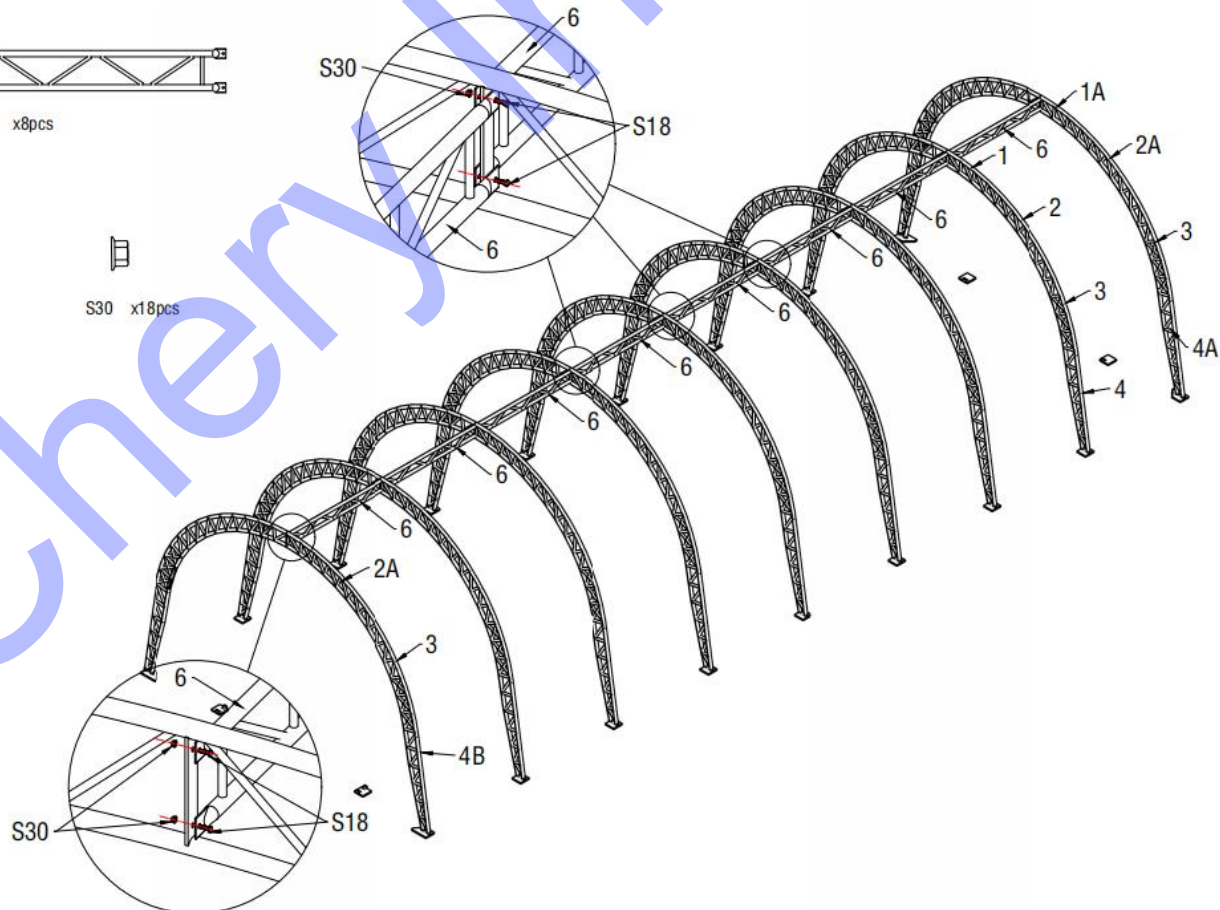
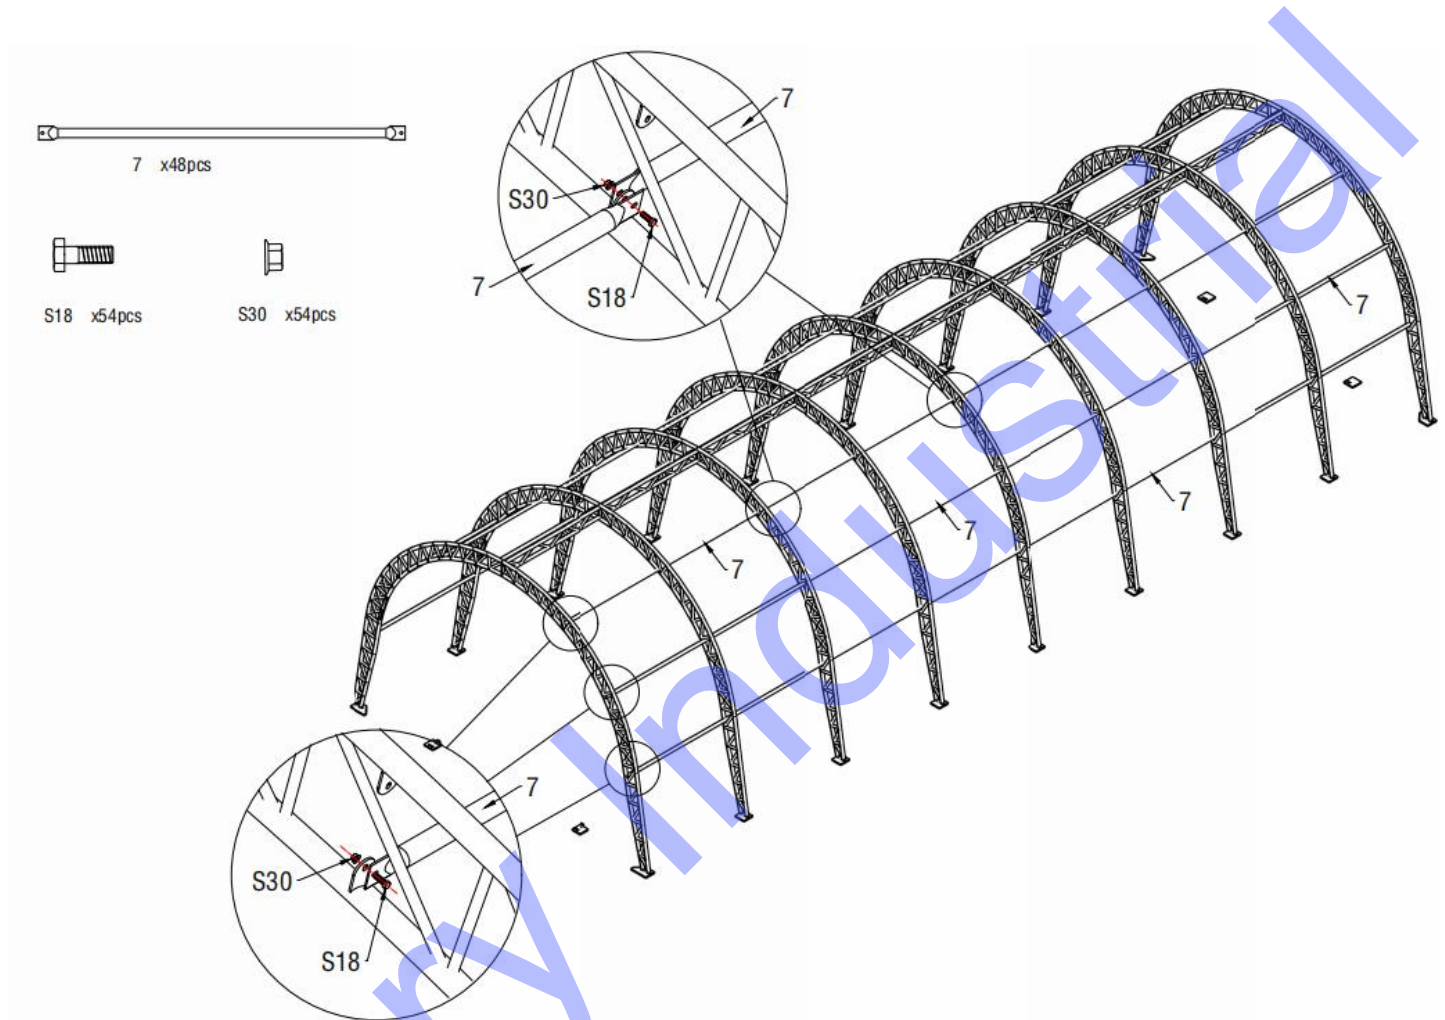

Figure 7
Figure 8
4. Above Figure 7 shown when finish installing all the arches into the base plates, use Double Trussed Purlins (No.6) to connect them by Screw M10x30 (No.S18) . Then use Purlins(No.7) to connect the arches by Screw M10X30 (No.S18). In this turn, fix all other purlins. Finished stretch frame as below(Figure 8)